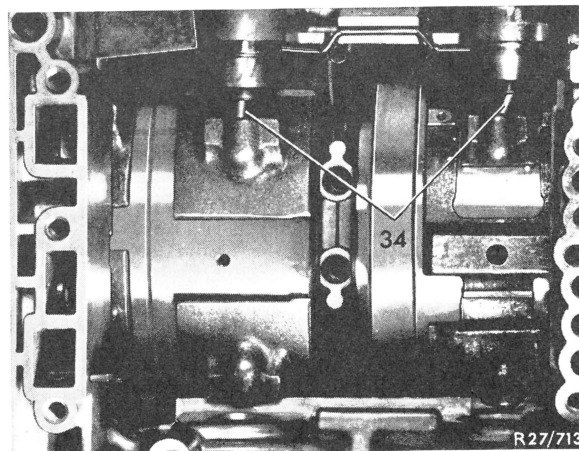

Fig. 9
**11** Remove thrust pins (34) for B 1 and B 2 (Fig. 9).